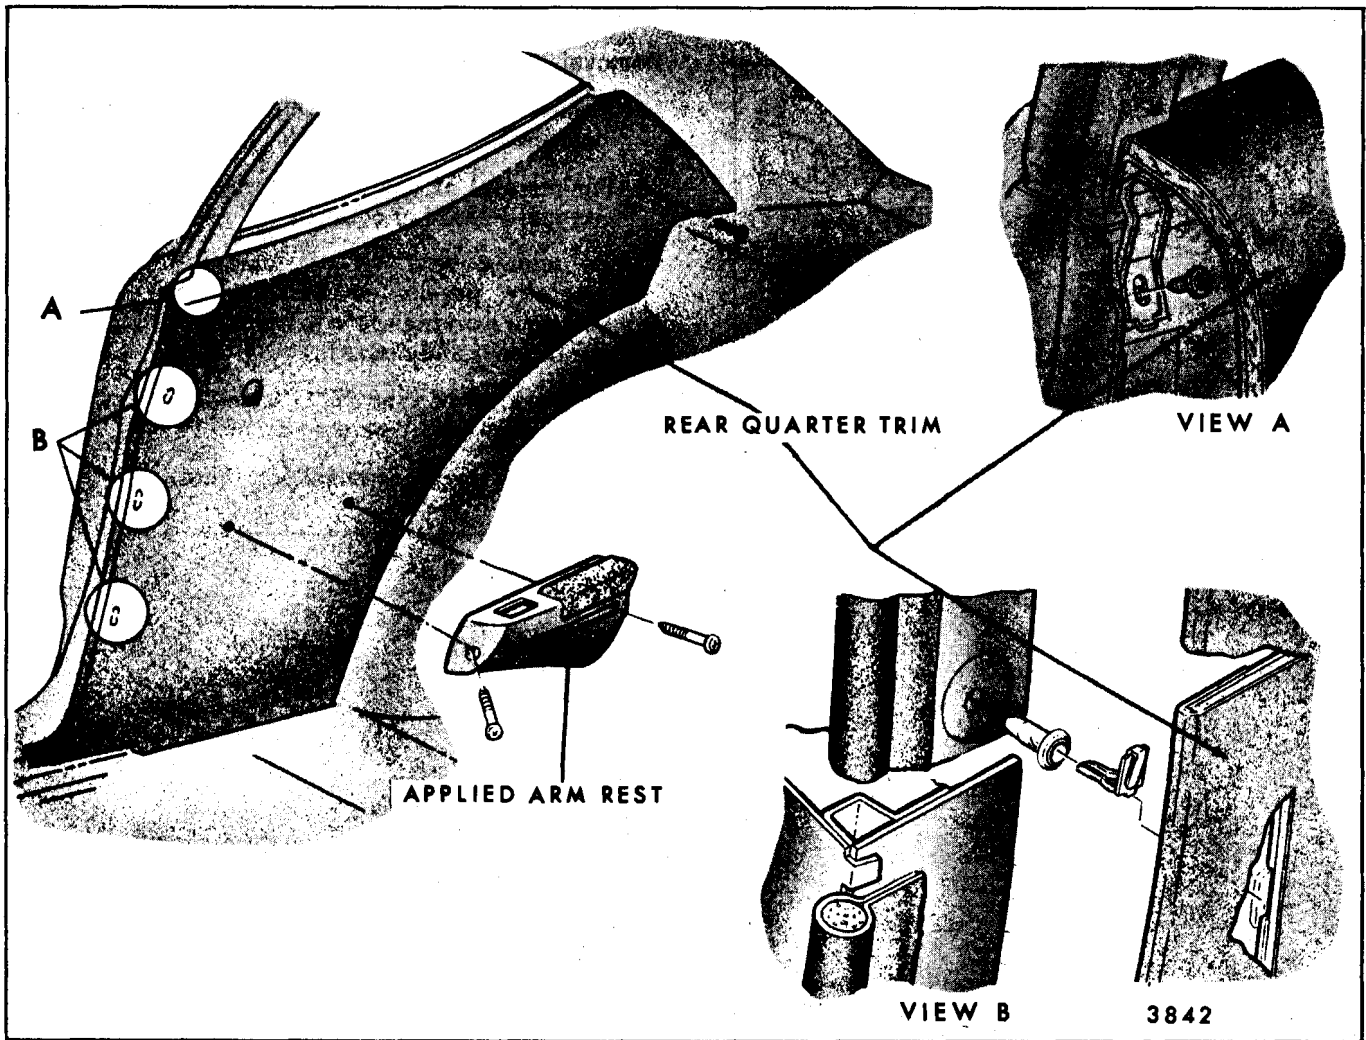
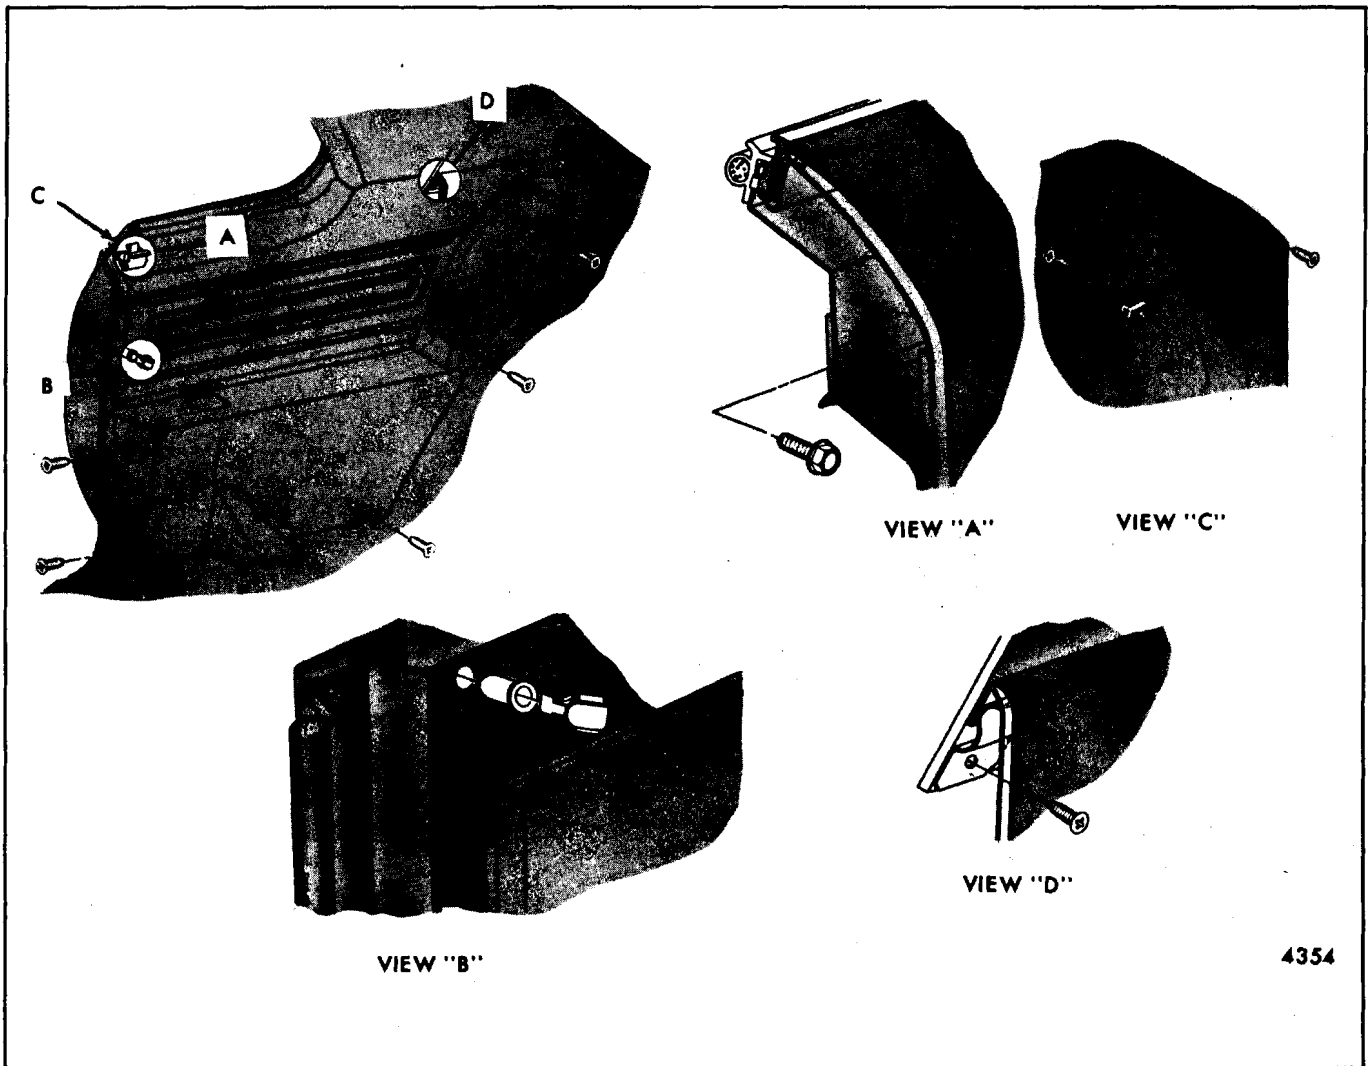

Fig. 13-16-Quarter Trim Assembly Attachment Two-Door Sedan Styles
Fig. 13-17-Quarter Trim Assembly Attachment Two-Door Hardtop Styles ("B" Style Shown)
Certain two door closed styles are equipped with "applied-type" arm rests. Each arm rest is secured to quarter inner panel by two attaching screws. Removal is simply a matter of removing two attaching screws (Fig. 13-16). To install, reverse the removal operations.
Certain two-door hardtop and convertible styles are equipped with "Floor-Mounted Type" arm rests. The arm rests extend from the arm position to the floor, and from the body lock pillar to the rear seat back panel (Fig. 13-17).
3. On "B", "C" and "E" styles, remove attaching screw at upper rear of arm rest (Fig. 13-17).
4. Where present, remove attaching screw(s) from front and/or rear of quarter trim assembly (Fig. 13-16 and View "C" Fig. 13-17).
5. Where present, detach fasteners securing quarter trim along body lock pillar (View "B" Fig. 13-16) with tool J-9886 or equivalent.